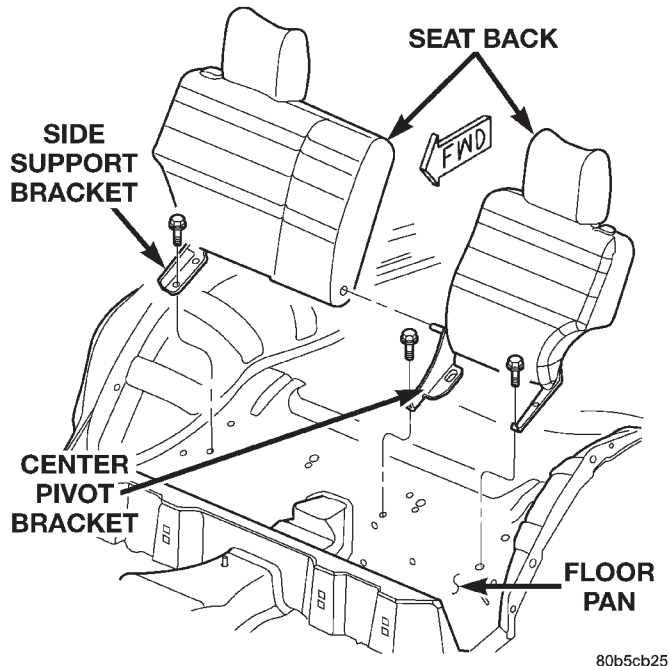

Fig. 12 Rear Seat Back
- (1) Move rear seat cushions to forward cargo position.
- (2) Remove bolts attaching seatback side support bracket to floor pan (right side) (Fig. 12).
- (3) Tilt seatback forward, and slide it outboard to detach it from pin on center pivot bracket.
- (4) Remove right side (60%) seatback from vehicle.
- (5) Remove bolts attaching seatback side support bracket and center pivot bracket to floor pan (left side).
- (6) Remove left side (40%) seatback from vehicle.